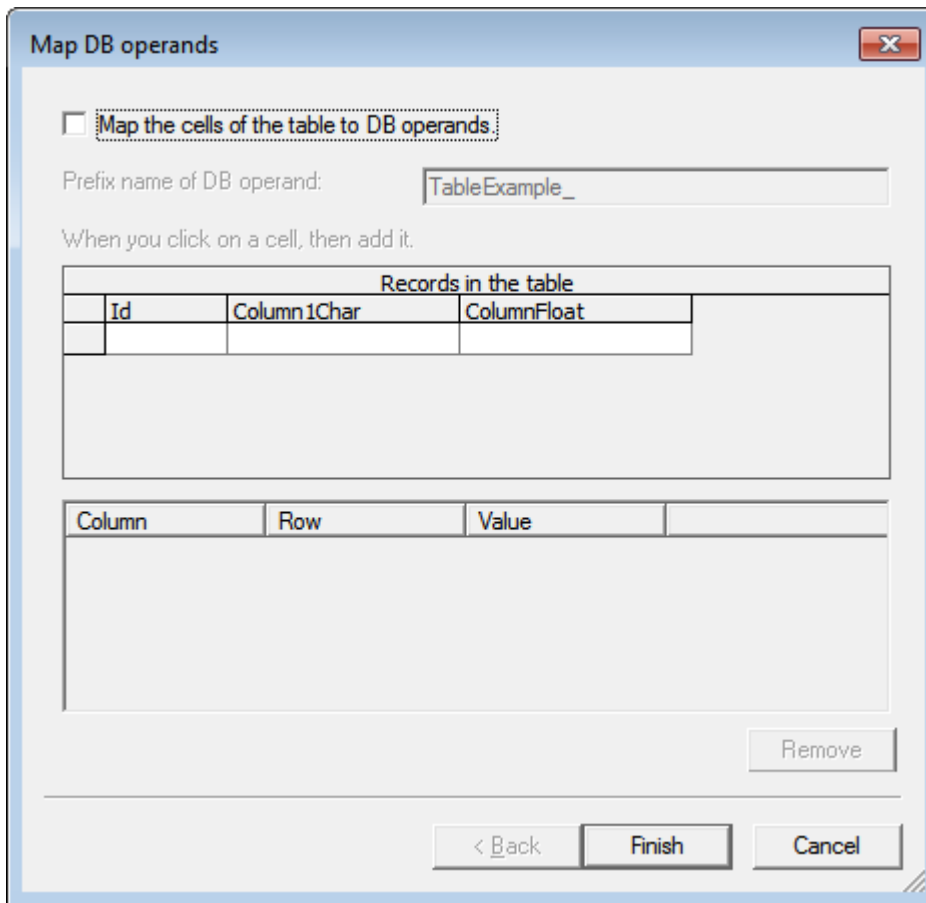

Figure 4: Choosing cells for mapping into database operands
4. Optional step (when Checkbox "Map the cells of DB operands" is chosen) – mapping concrete table cells (instead of whole columns) to be mapped to **database operands** and/or to **OPC items on internal OPC server**. (**Figure 4**)